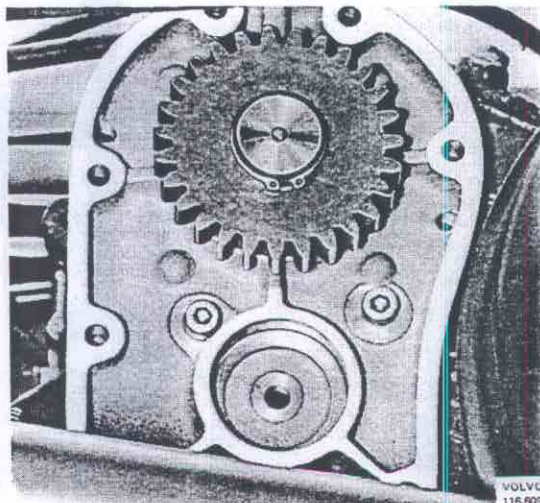

Fig. 48-8. Remove the inner bolts
5. Remove both the inhex bolts, Fig. 48-8, securing the housing to the auxiliary gearbox.